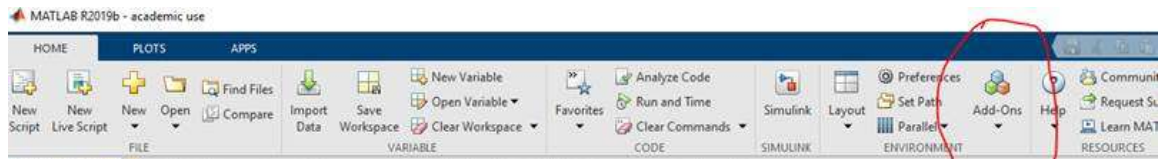

Figure 3 - MATLAB Home tab
- 1 On the MATLAB Home tab, see Figure 3, in the Environment section, click Add-Ons > Get Hardware Support Packages.